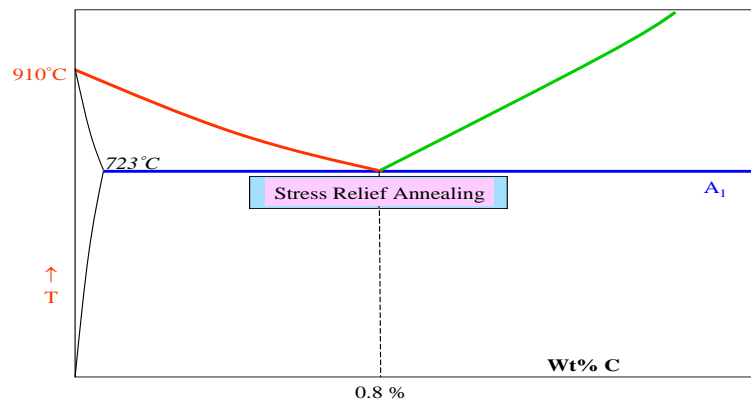

Fig.5. show at which stress relief annealing will be occurs
- ✓ Due to various processes like quenching (differential cooling of surface and interior), machining, phase transformations (like martensitic transformation), welding, etc. The residual stresses develop in the sample. Residual stress can lead to undesirable effects like warpage of the component. Shown below fig.5.